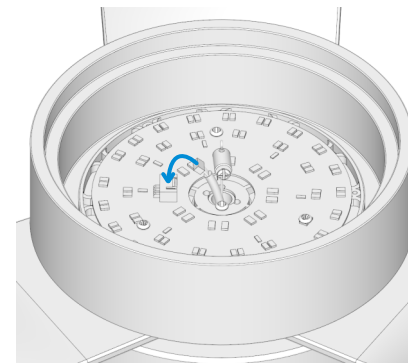

Fig. 3.2
3.3 Connect the wire plug to the light kit's terminal block as demonstrated in Fig. 3.2.